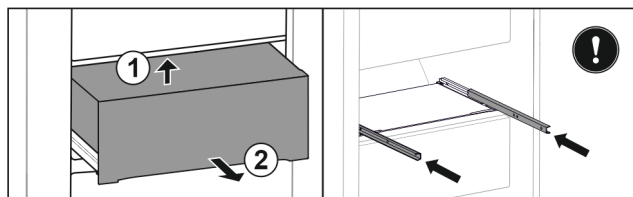

Fig. 112
- Lift drawer from below at the back. Fig. 112 (1)
- Remove drawer to the front. Fig. 112 (2)